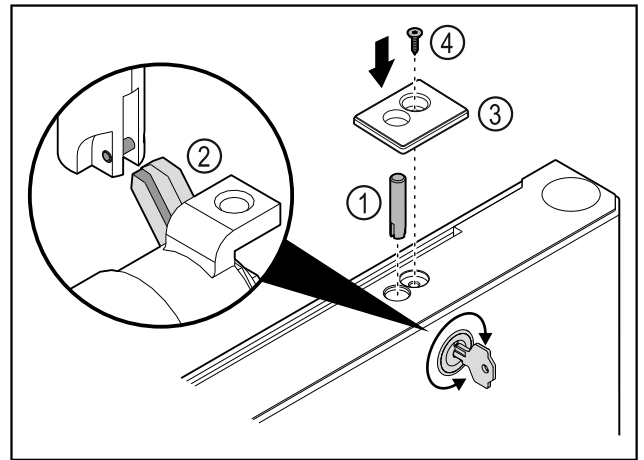

Fig. 49
- ▶ Put in the lock bolt Fig. 49 (1).
- ▶ Turn the lock slightly so that the lock bolt Fig. 49 (2) engages in the slot of the lock.
- ▶ Put in the cover Fig. 49 (3).
- ▶ Insert the screw Fig. 49 (4).